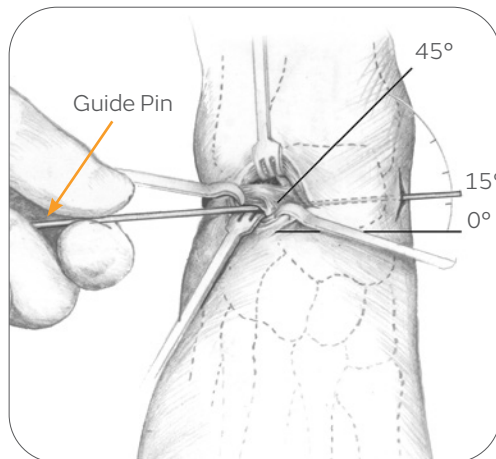

Figure 3-1
**3-1** The guide pin is then inserted into the sinus tarsi from lateral to medial until tenting is noted on the medial aspect of the foot (**Figure 3-1**). The guide pin should be positioned on the floor of the calcaneus and against the lateral process of the talus as the pin is inserted from lateral to medial and slightly posterior. It is suggested that a small incision be made minimally to allow passage of the guide pin through the medial aspect of the foot, just inferior to the tibialis posterior tendon and anterior and slightly inferior to the medial malleolus.